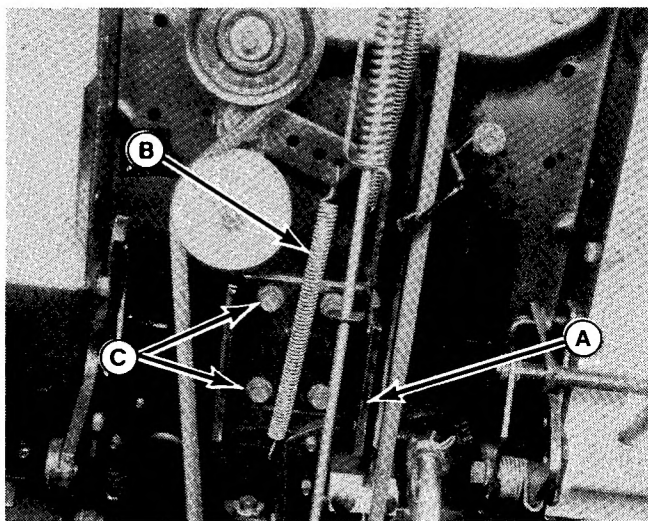

Figure 31.
5. Install jackshaft bracket (A, Figure 31) between drive pulley spring (B) and frame. Make sure that notched end is positioned toward the front of the tractor. Secure with four bolts (C) to tractor frame.